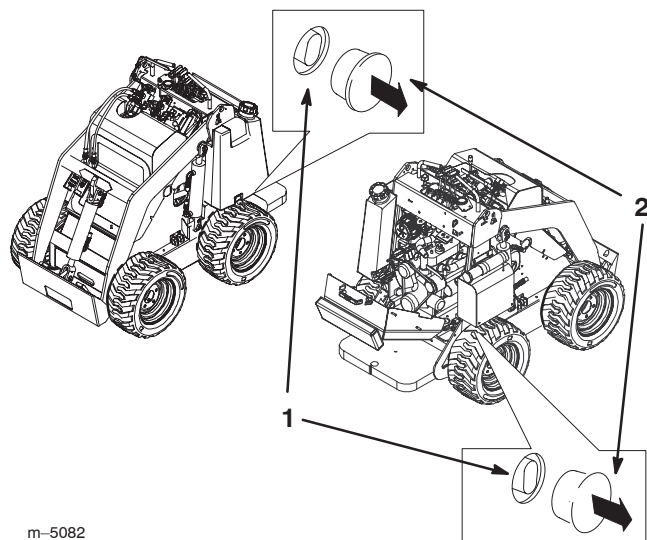

Figure 13
2. Remove the plug covering each tow valve (Fig. 13).
3. Loosen the jam nut on each tow valve (Fig. 13).